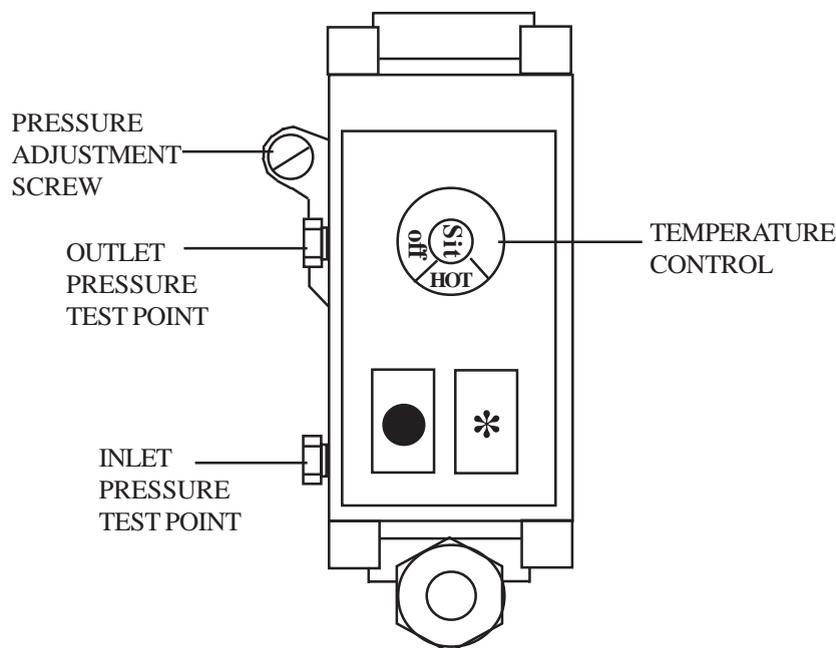

Fig. 4
- 5.4.1 Referring to fig. 4, remove Outlet Pressure Test Point cover and connect Gas Pressure Test Gauge.
- 5.4.6 Referring to Fig. 4 and Table 1 (para 2.1), set Multifunctional control Pressure Adjuster to provide the required setting pressure for the installation.